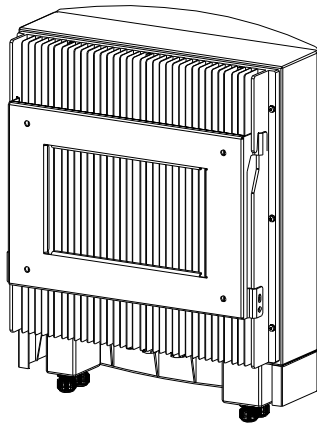

Figure 4.5 Wall mount bracket
2. Lift up the inverter (be careful to avoid body strain), and align the back bracket on the inverter with the convex section of the mounting bracket. Hang the inverter on the mounting bracket and make sure the inverter is secured (see Figure 4.5)